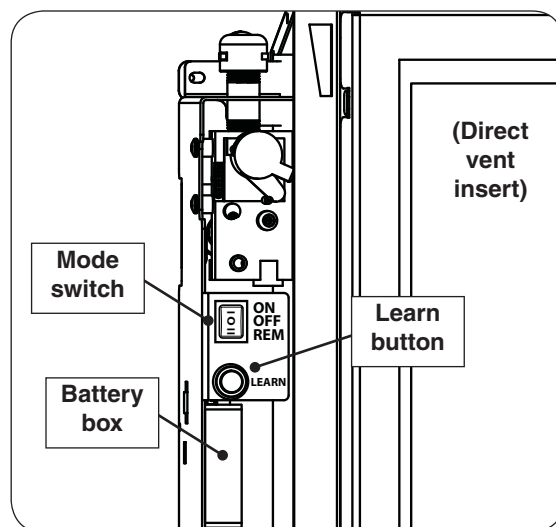
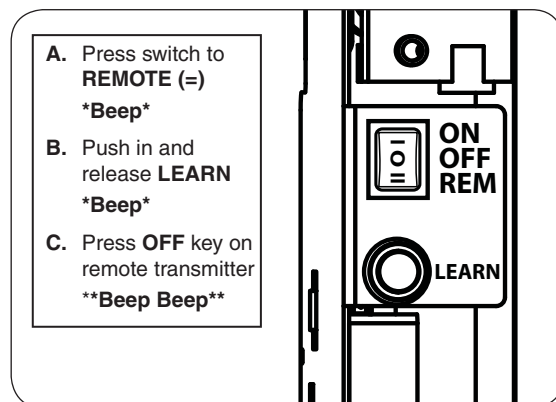

Fig. 49-2 Control box (left side of unit)
Fig. 49-4 Sync detail
The system requires 4 AA batteries that serve as a back-up power source. Open the surround door and locate the battery box in the control box (see Fig. 49-2).
1. Open the surround door. Locate the 3-position mode switch on the control box (see Fig. 49-2). Press the switch down to the **REMOTE (=)** position (see Fig. 49-4). The system will beep within 5 seconds.
2. Push in and release the **LEARN** button (see Fig. 49-4). The system will beep.